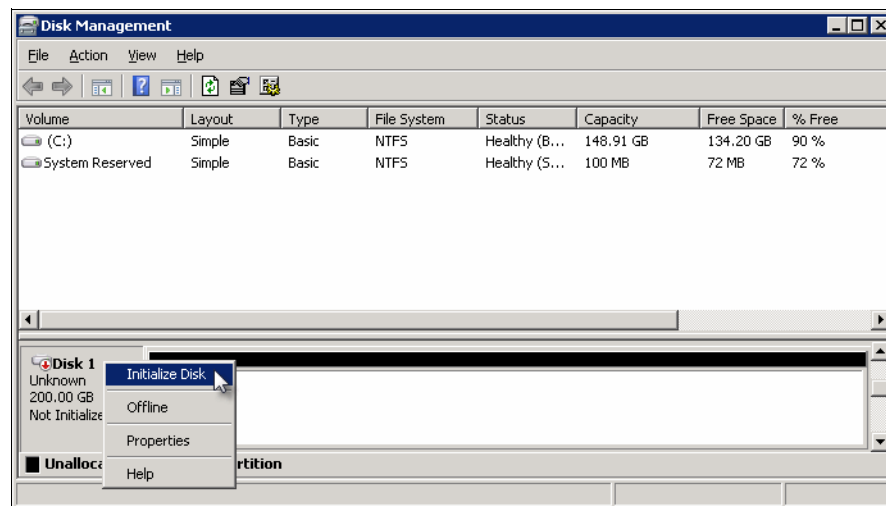

Figure 5-35 Initialize Disk menu
- Right-click the disk again and then click **Initialize Disk**, as shown in Figure 5-35.